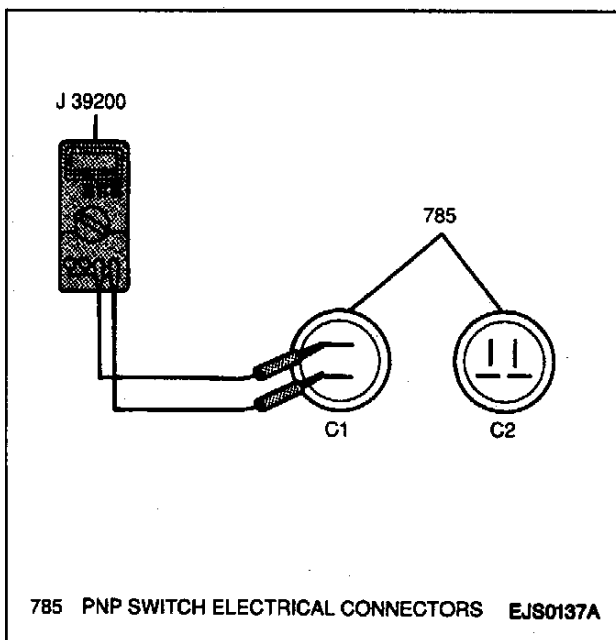

Figure 14—PNP Switch/Transmission Range Switch Electrical Connectors
- PNP switch by attaching the two probes of a J 39200 to either side of the two terminal C1 connectors (Figure 14).